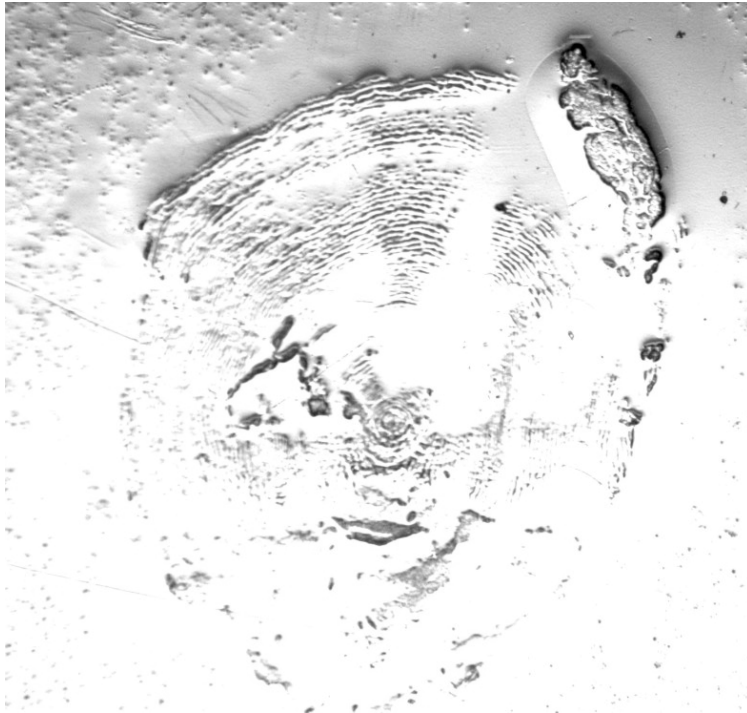

Fig.12. Indistinct, poorly pressed sockeye scale impression.
- Fig.12. Indistinct, poorly pressed sockeye scale impression.